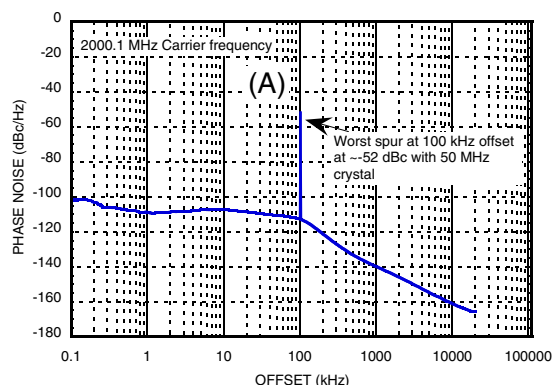
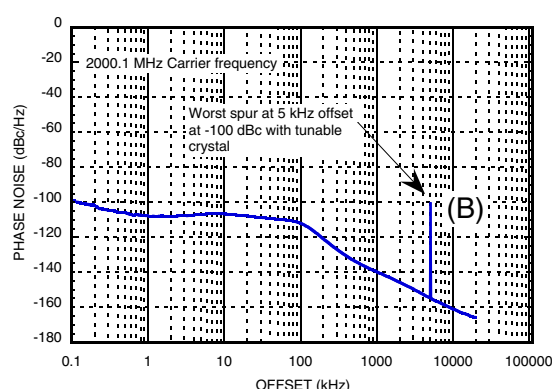
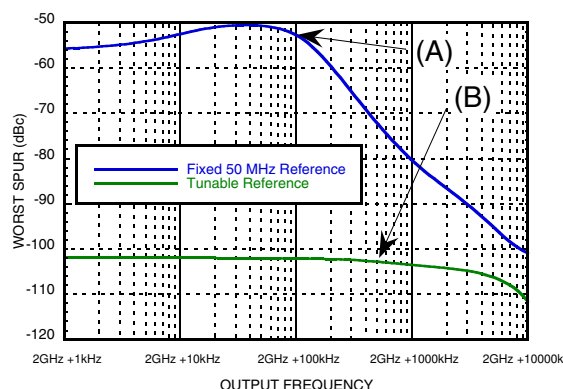

Figure 35. HMC834LP6GE Worst spur at any offset, fixed 50 MHz reference, output frequency = 2000.1 MHz
Figure 36. HMC834LP6GE worst spur at any offset, tunable reference (HMC830LP6GE), output frequency = 2000.1 MHz
Figure 37. Largest observed spurious, at any offset, using a fixed 50 MHz reference source and a tunable reference source.
For example, Figure 35 shows the spectrum of a carrier operating at 2000.1 MHz with a 50 MHz fixed reference. This case is 100 kHz away from an Integer Boundary (50 MHz x 40). Worst case spurious can be observed at 100 kHz offset and about -52 dBc in magnitude.
Figure 36 shows the same HMC834LP6GE PLL VCO operating at the same 2000.1 MHz carrier frequency, using a tunable reference at 47.5 MHz generated by HMC830LP6GE. Worst case spurious in this case can be observed at 5 kHz offset and about -100 dBc in magnitude.
The results of Figure 35 and Figure 36 show that the tunable reference source achieves 50 dB better spurious performance, while maintaining essentially the same phase noise performance.
Many spurious measurements, such as the ones in Figure 35 and Figure 36 can be summarized into a single plot of worst case spurious at any offset vs. carrier frequency as shown in Figure 37. A log frequency display relative to the 2000 MHz fixed reference Integer Boundary was used to emphasize the importance
For example worst case spurious operating at 2000.1 MHz (point (A)) in Figure 35 with a fixed 50 MHz reference) is represented by a single point in Figure 37 (point (A)) on the blue curve. Similarly, worst case spurious from Figure 36 with variable reference, operating at 2000.1 MHz is represented by a single point in Figure 37 (point (B)) on the green curve.
The plot in Figure 37 is generated by tuning the carrier frequency away from Integer Boundary and recording the worst case spurious, at any offset, at each operating frequency. Figure 37 shows that the worst case spurious for the 50 MHz fixed reference case, is nearly constant between -51 dBc and -55 dBc when operating with a carrier frequency less than 100 kHz from the Integer Boundary (blue curve). It also shows that the worst case spurious rolls off at about 25 dB/decade relative to 1 loop bandwidth. For example, at an operating frequency of 2001 MHz (equivalent to 10 loop bandwidths offset) worst case spurious is -80 dBc. Similarly, at an operating frequency of 2010 MHz (equivalent to 100 loop bandwidths) worst case spurious is -100 dBc.
In contrast, the green curve of Figure 37 shows that the worst case spurious over the same operating frequency range, when using an HMC834LP6GE tunable reference, is below -100 dBc at all operating frequencies!